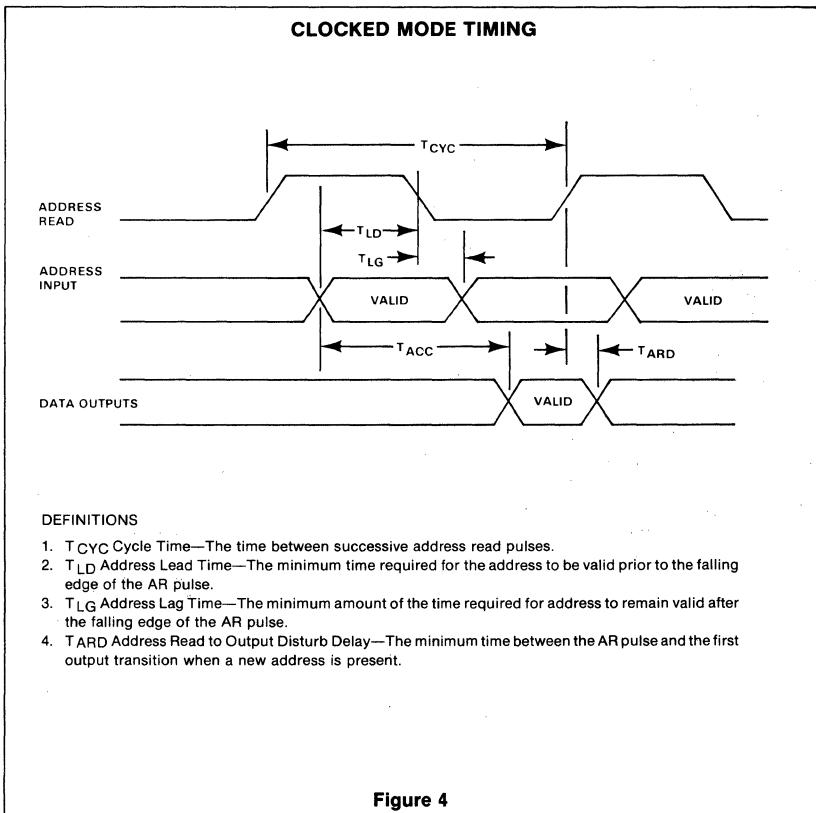

Figure 4
In the clocked mode of operation, the Address Read (AR) input signal controls the input address latches similar to a clock controlling a D-latch where the contents of this set of latches (the address) selects the corresponding eight bits of data which become out 0 through out 7. As long as AR is held high, the input addresses are allowed to propagate through the latches. If the addresses change, the address latches will reflect this change and the selection of the corresponding data bits begins. However, when AR is brought to the low level, the addresses are latched to the state of the address lines prior to the negative transition of AR. There are minimum set-up and hold time requirements indicated by TLD (address lead time) and TLG (address lag time). They are the minimum times the address must be valid before and after the falling edge of the AR signal. The 2600-1 requires TLD of 50ns and TLG of 100ns compared to EA's 100ns and 150ns, respectively. This means that for the address to be latched (thereby the output data is effectively latched) it need only be present in a given cycle for 150ns compared to EA's requirement of 250ns. This frees up the address bus for an extra 100ns where other operations may take advantage of the bus. A timing diagram for the clocked mode is shown in Figure 4, while Table 2 is a competitive comparison.